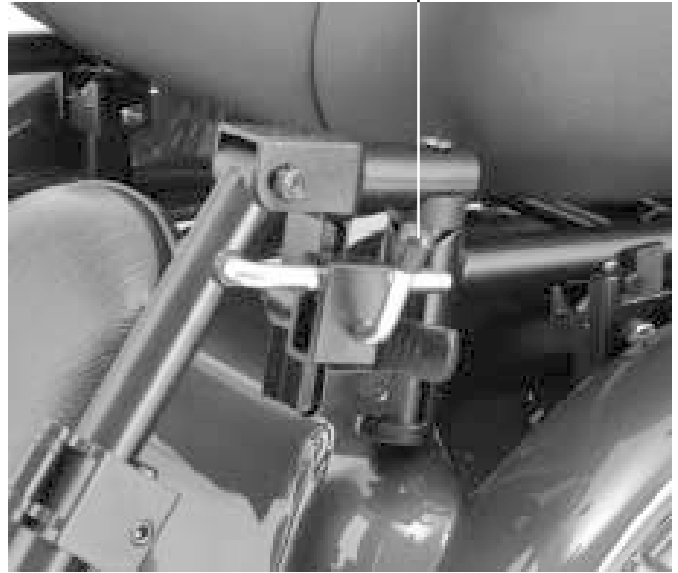

Figure 14. Elevating Leg Rests
1. Press the release lever. See figure 14.